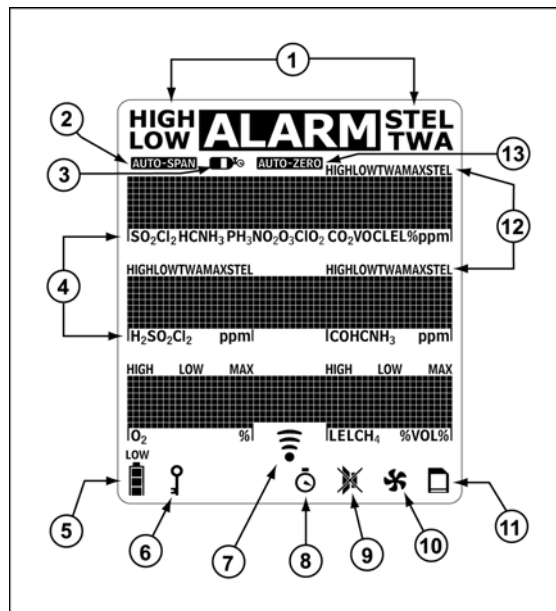

Figure 2. Screen Elements
- Figure 2, and Table 5, describe the detector's screen elements.